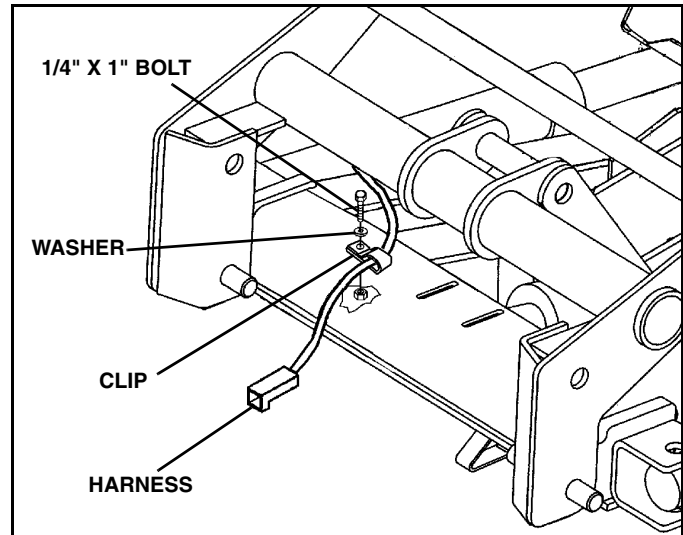

Figure 1-17
31. Run power harness towards back of plow. Secure with clip and 1/4" x 1" bolt, washer, and lock nut, found in A-frame parts bag, through hole in back of A-frame. (See Figure 1-17).